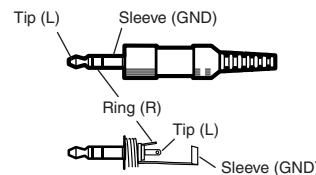
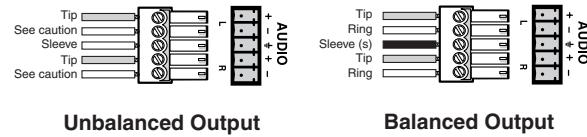

Figure 2-8 — 3.5 mm stereo audio plug
Figure 2-9 — Captive screw audio connector wiring
- (3) **Audio input connectors** — Plug a 3.5 mm stereo audio plug into this jack for unbalanced audio input. Wire the plug as shown in figure 2-8. The number of inputs available varies with the switcher model.
- NOTE** Figure 2-8 shows a typical audio connector, which consists of the tip, ring and sleeve. The ring, tip, and sleeve wires are also shown on the audio output captive screw audio connector diagram, figure 2-9.
- ⑥ **Audio output connector** — Insert a 3.5 mm, 5-pole, one-piece captive screw audio connector into this connector for stereo audio output. Wire the connector as shown in figure 2-9.